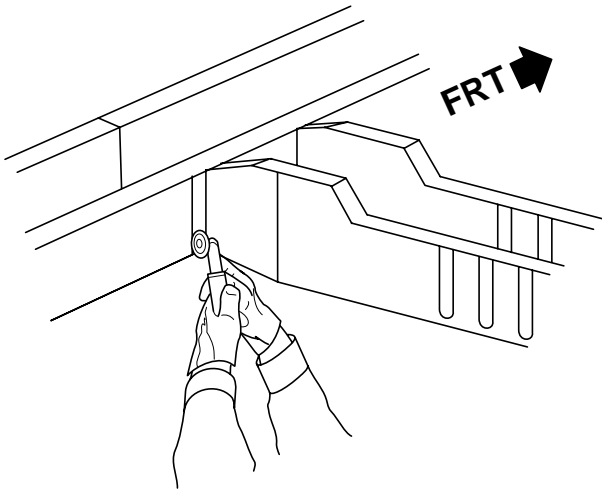

Fig. 1-22 — Cut the Rail for Sectioning
2. Cut the service rail along the marked lines and discard the unused section (Fig. 1-22).